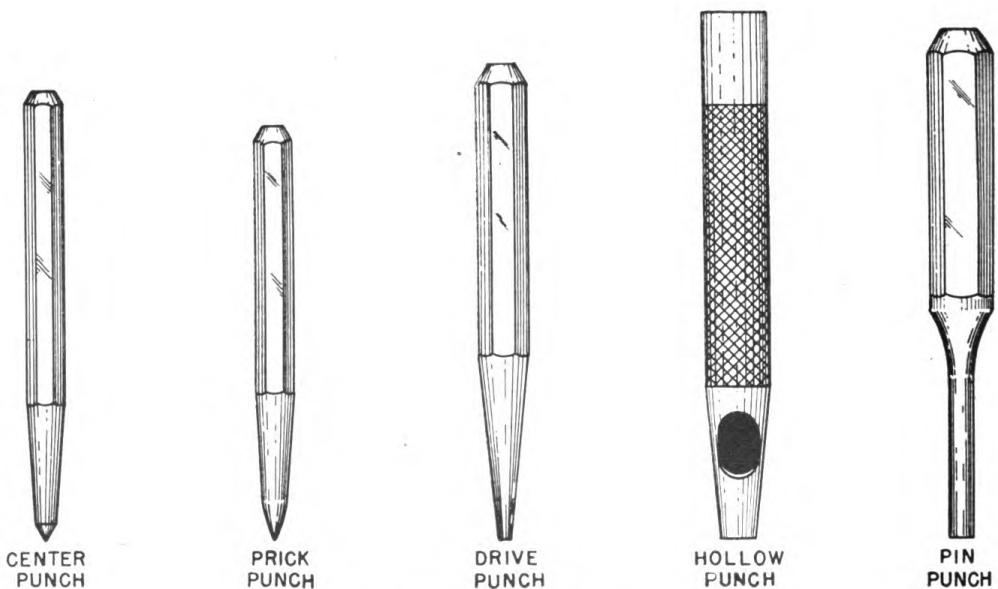

Figure 113. Types of punches.
(2) The five types of punches used by the airplane mechanic are: prick, center, drive, drive-pin, and hollow. (See fig. 113.) The work for which they are best suited depends upon their shape.
(3) Prick punches are used to place reference marks on metal. They are relatively slender and are tapered to a point of about 30° . A prick punch should never be struck a heavy blow with a hammer as that is likely to bend the punch or dull the point.
(4) Large indentations in metal such as are necessary to start a twist drill are made with a center punch. It has a heavier body than a prick punch and is ground to a point with an angle of 60° .
(5) As the name implies, a drive punch is used to drive pins and bolts out of holes in which they sometimes bind. The drive punch is therefore made with a flat face instead of a point.
(6) Drive-in punches are similar to the drive punches and are used for the same purposes, the difference in the two being that the sides of a